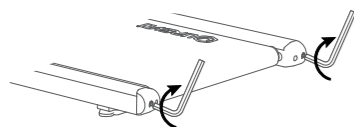

Figure 3
2. Using the hex tool, turn both idler roller screws clockwise **1/2** of turn (refer to figure 3).